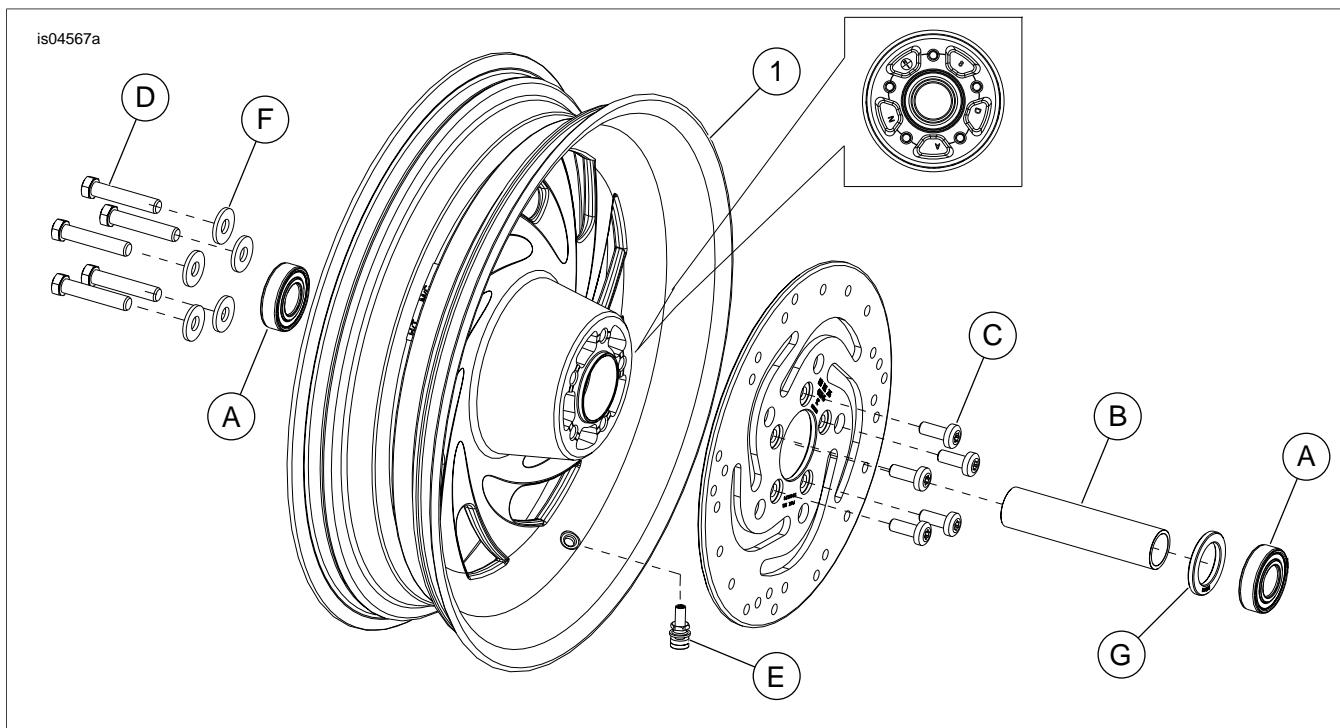

Figure 1. Service Parts: Rear Typhoon Wheels
See Figure 1 and Service Parts Tables.
2. See Figure 1. Install valve stem assembly (E) on wheel. Refer to TIRES in service manual.